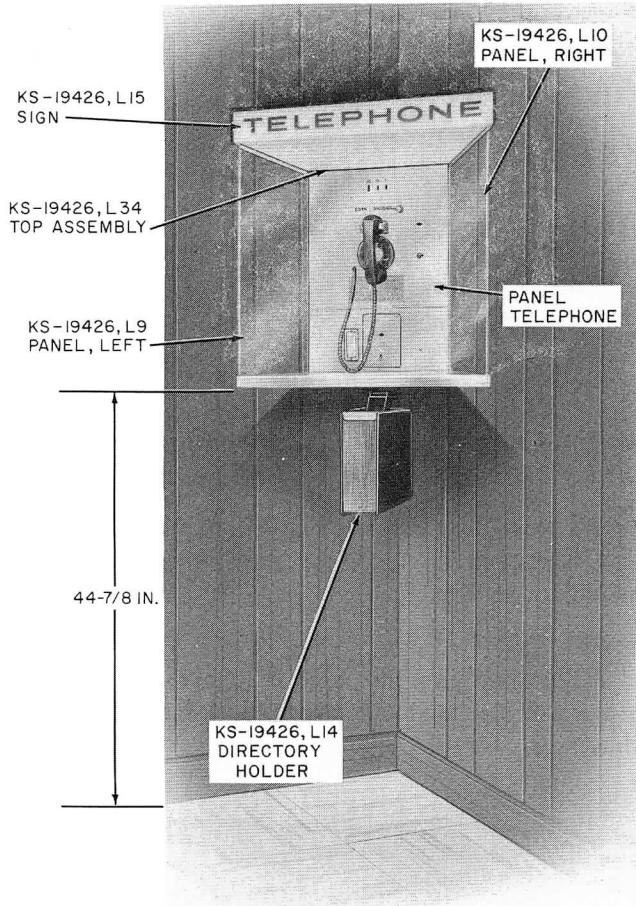

Fig. 3 — KS-19426 Mounting in Corner Using List 4 Support
2.03 Wall mountings (Fig. 3 and 4) may be installed on a flat wall, in a corner, or around a corner in various multiple combinations as shown in Fig. 6.
(b) List 14 directory holder (Fig. 3 and 4) for indoor use.